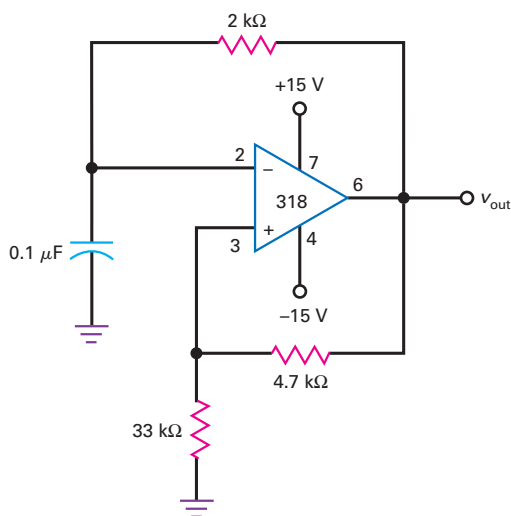

Figure 36-45
36.15 What is the frequency of the output signal in Fig. 36-45?